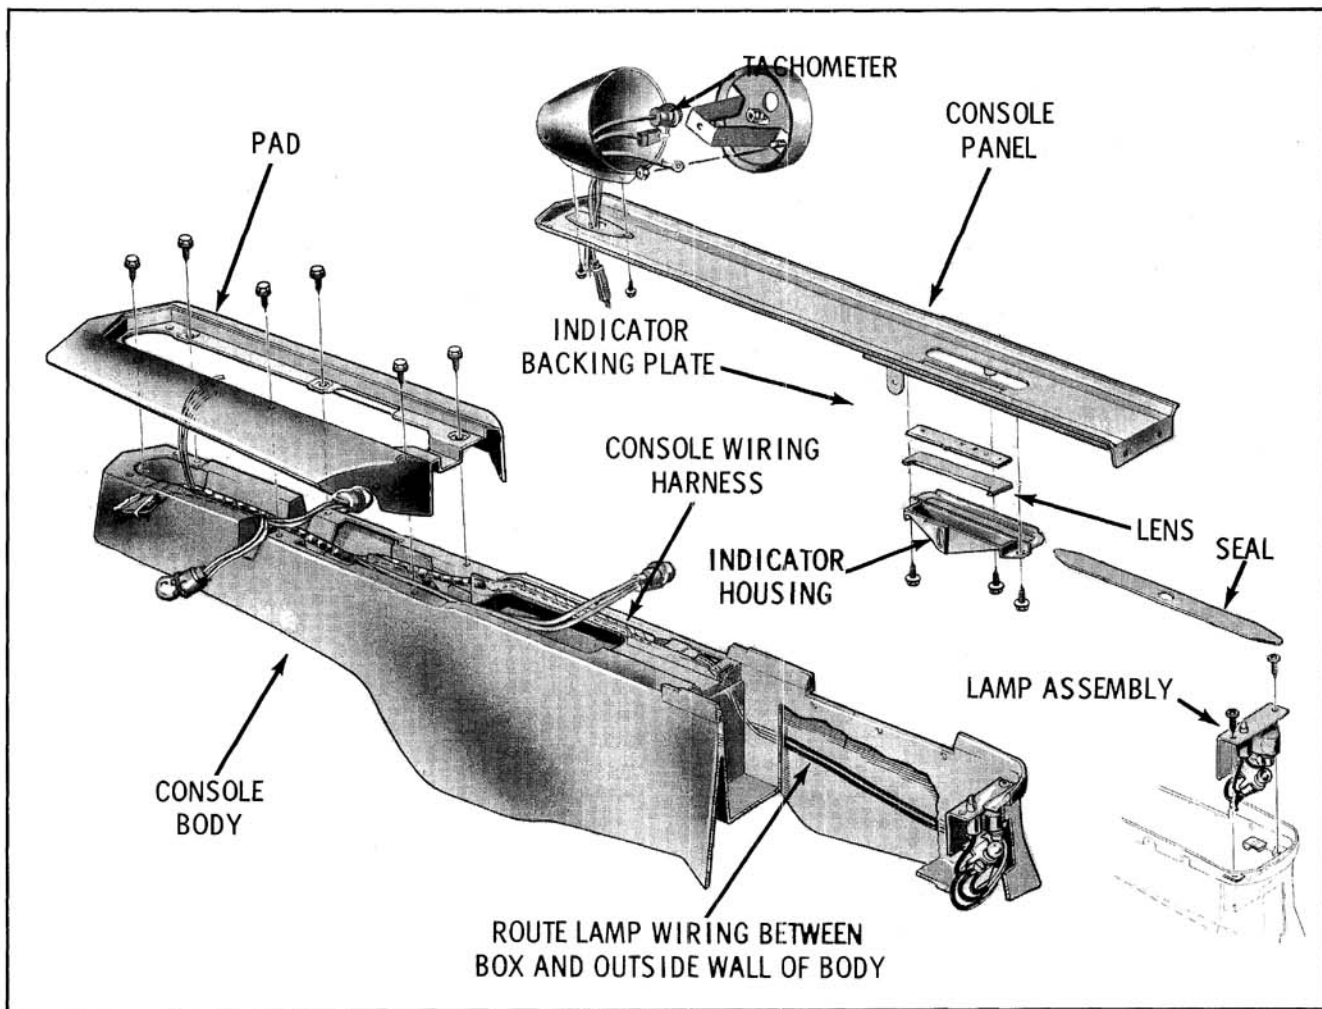

Fig. 12-115 Console Assembly - Jetaway
body by two screws accessible inside of the glove box. To change either bulb it is necessary to remove the two screws retaining the lamp assembly. (Fig. 12-115) The glove box lamp bulb is the snap-in type and the rear courtesy lamp bulb is the depress and turn type.
**SHIFT SEAL, INDICATOR, LENS AND INDICATOR HOUSING (Fig. 12-115)**
7. Remove the three screws securing the shift indicator housing to the console panel and remove the plate and lens. (Fig. 12-115)
**PAD ASSEMBLY (Fig. 12-115)**